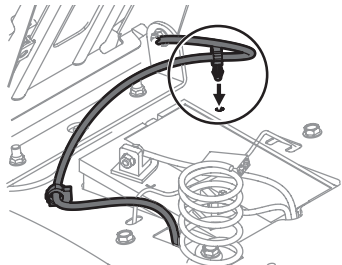

Fig. 4
5. Using the harness clip attached to the harness, secure the excess wire to the fender by snapping the harness clip in place (Fig. 4).